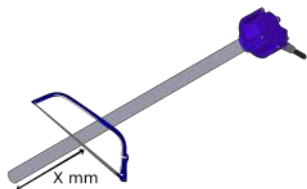

Figure 16: Cutting of Extended Probe Length
- With a help of a saw carefully make a straight cut of length $x\text{mm}$ from the bottom of the probe as shown in Figure 16. Support the probe adequately at the other end to avoid bending of the probe.